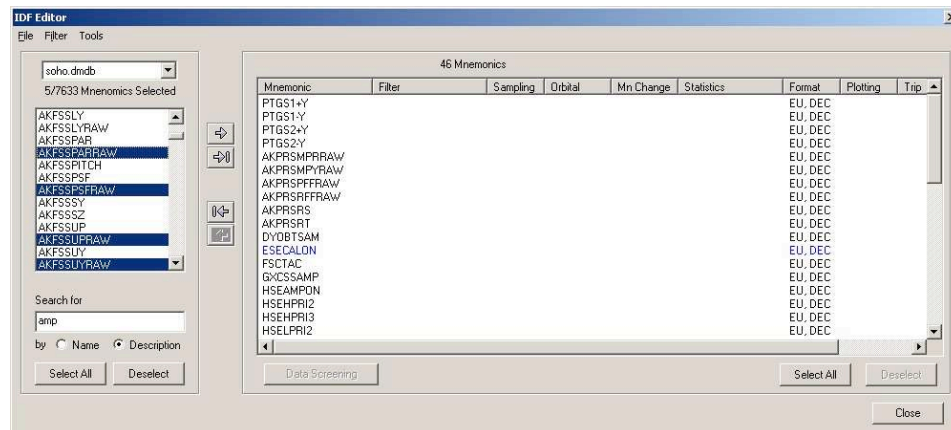

Figure 65: IDF Editor Main Window
- Click on the mnemonics to be included in the IDF in the IDF Editor main window (see Figure 65).